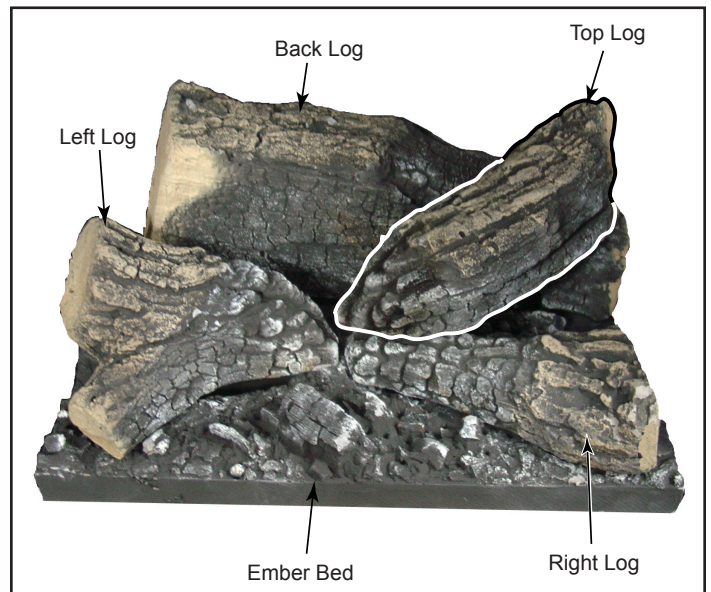

Figure 59
4. Install top log by mating hole on bottom of log with locating pin on top right side of rear log, Figure 59. Position log so it is angled down toward the area where the front two logs meet.